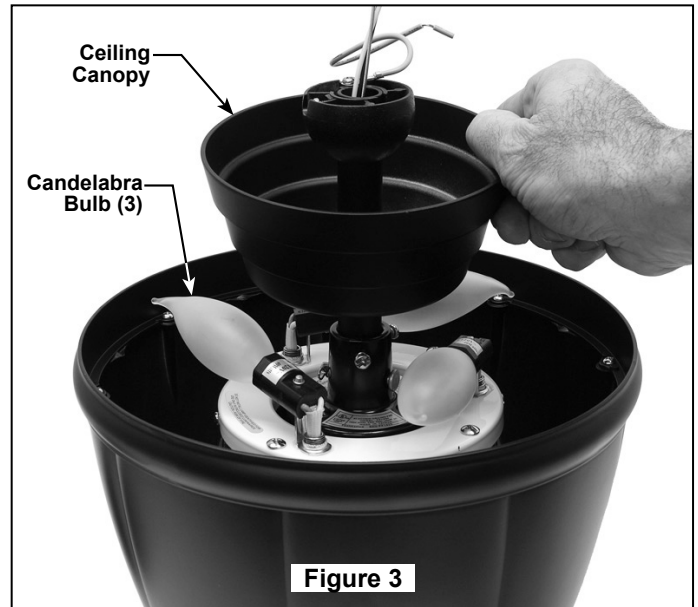

Figure 3
5. Route wires and safety cable through opening in Canopy. Position Canopy on fan shown with open side facing up. (Figure 3)
9. Install three Candelabra Bulbs (not included - 40 watts max) in each of the sockets on the Uplight Assembly (Figure 3).
4. Carefully lift the fan and seat the downrod/hanger ball assembly on the hanger bracket that was just attached to the ceiling joist. Be sure the groove in the ball is lined up with tab on the hanger bracket. (Figure 3)
5. Attach the safety cable to ceiling support cable. Slide cable clamp onto safety cable (from fan). Place the end of cable through the loop of ceiling support cable. Pull as much cable through loop as possible. Feed end of cable into clamp hole and firmly tighten screw (Figure 3). Cut off excess safety cable.